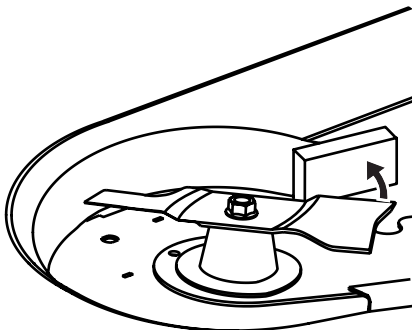

Figure 4-22
- Secure the blade from turning counter-clockwise during service by placing a block of wood between the blade and the deck housing, see Figure 4-22, or wrap a rag around one end of the blade and grasp the blade firmly.